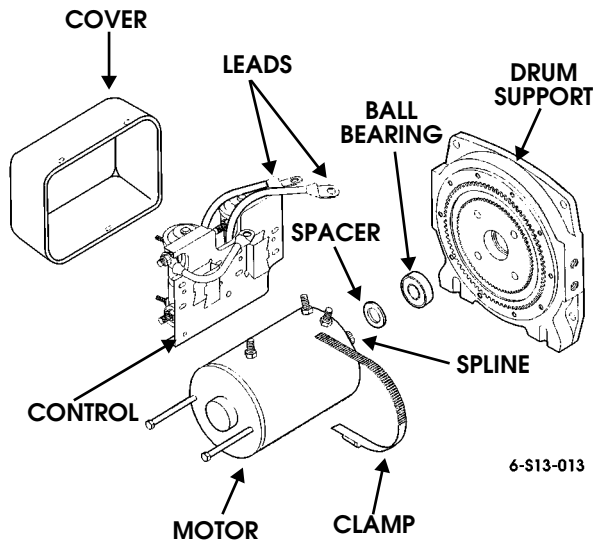

Figure 13-15: Motor and Control Unit
8. Inspect brake assembly for damage (Figure 13-15).
9. Inspect motor, spline, mating surface, and terminals for damage. Replace motor if damaged (Figure 13-15).